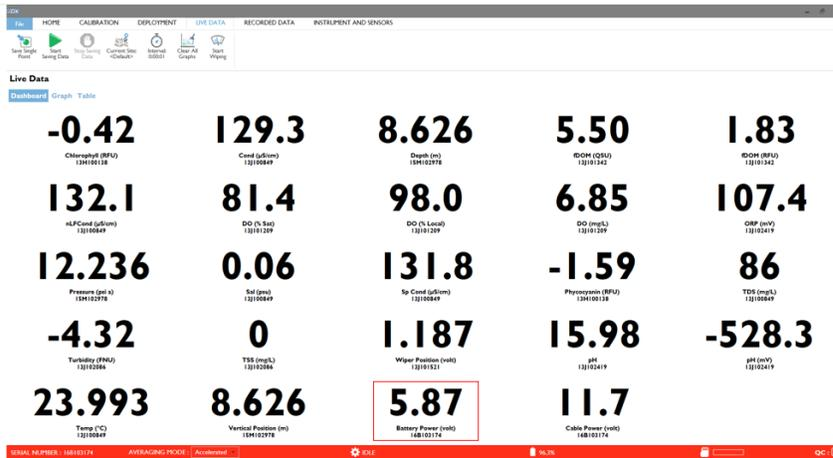

Figure 36. Battery voltage can be found under live data
**STEP 2** | Battery voltage data is available in the Multisonde Dashboard (Figure 36). Normal voltage for batteries is about 6.4. **If the battery voltage is less than ~5.5 Volts, replace the batteries.** Monitor the battery voltage more often if Field Science is aware the site is experiencing power issues. Reference Figure 33 to replace the batteries. This value can also be found as Internal Voltage via remote monitoring, alerts are set to automatically inform technicians of low voltages.